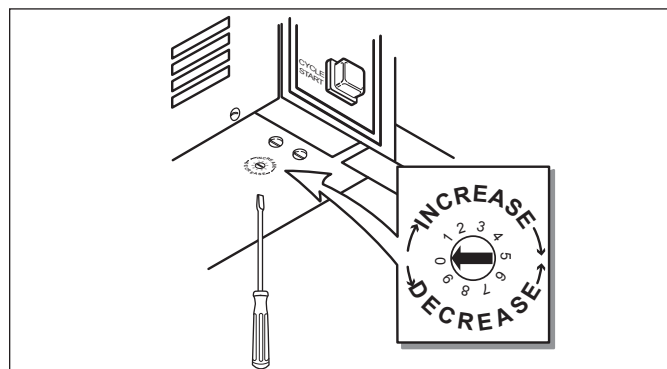

Figure 5. Water Volume Adjustment
9. With the unit positioned at the edge of its location surface (Edge of the counter, table, etc.) slide the steamer forward approximately 3" to expose the Water Volume Control on the button of the unit (Figure 5).
10. Using a small screwdriver (Figure 5), carefully and slowly adjust the control clockwise to increase or counterclockwise to decrease the amount of water volume used per cycle.